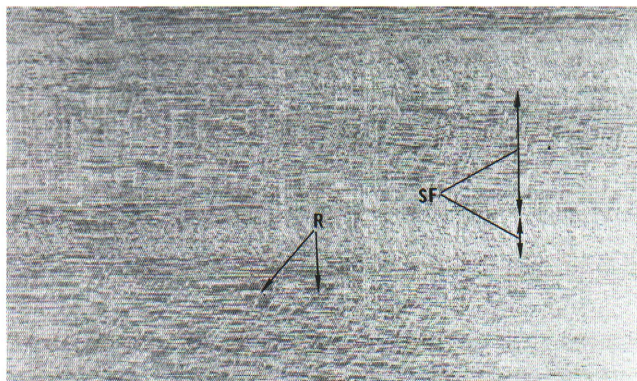

Figure 20 — Red Lauan. Radial surface with prominent rays, R. Stripe figure, SF, consisting of alternating bands of varying light reflection.
23. Pores large and conspicuous on radial or tangential surface, prominent rays on some surfaces, no growth rings, stripe figure common on radial surface (Fig. 20, 21) ..... **Lauan**